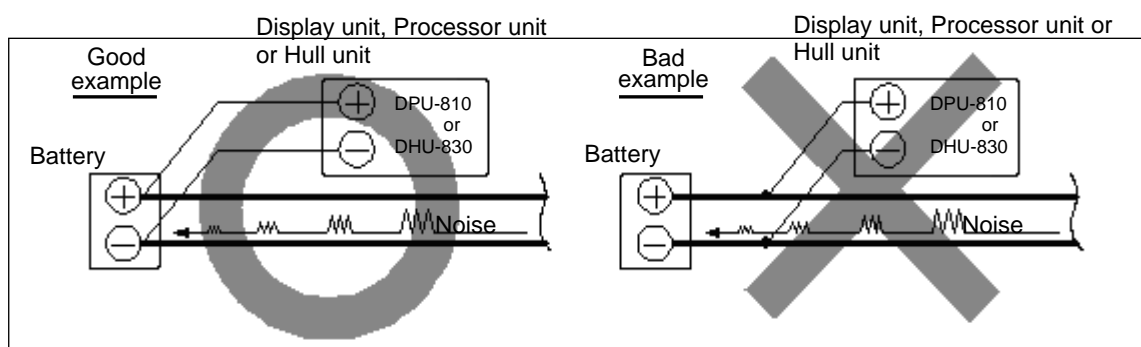

Fig. 1.1 KDS-8000BB Connection of power line
- (3) If you connect the power cable directly to the battery, interference from the other electronics equipment is expected to be less. (See Fig. 1.1)